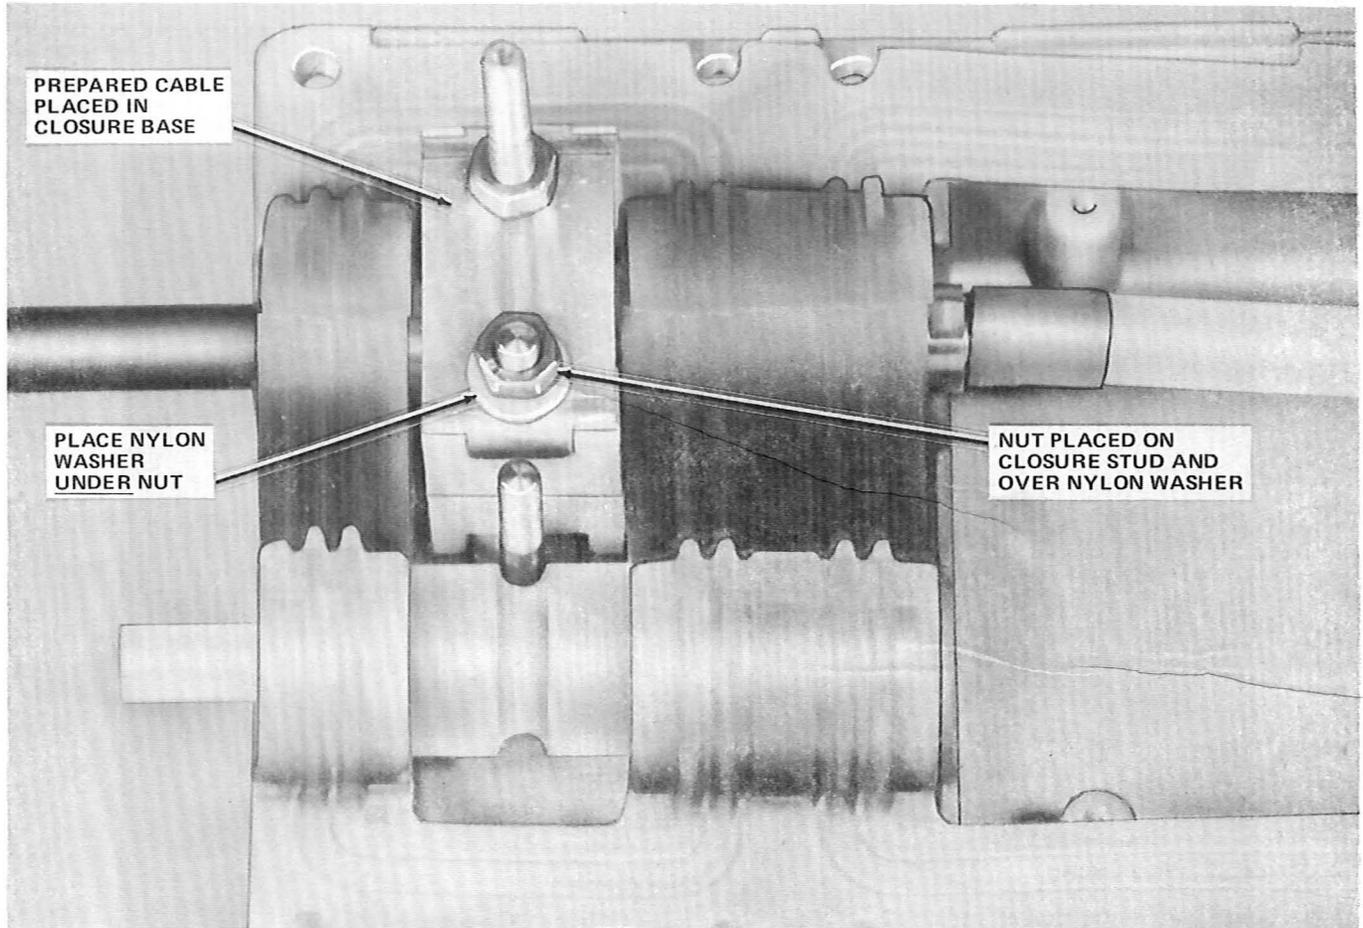

Fig. 98—Placement of Nylon Washer
12.05 Place the prepared cable in the closure base as outlined in Part 5, except place a nylon washer over the closure stud before installing the nut, as shown in Fig. 98.